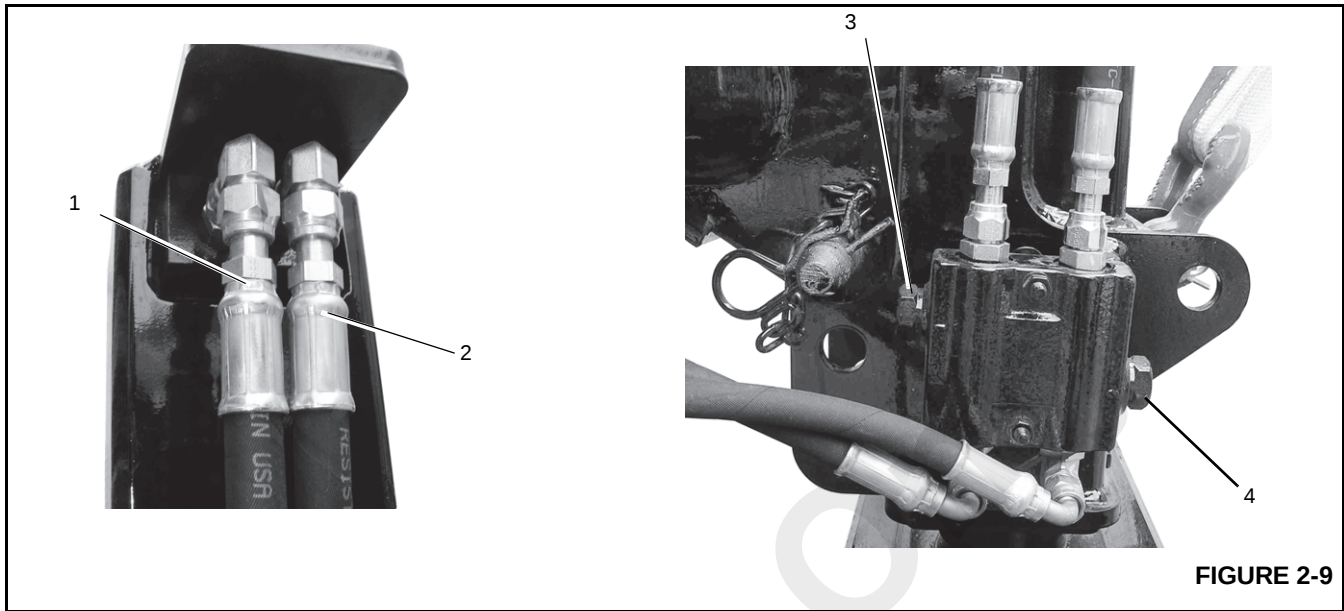

FIGURE 2-9
1. Disconnect the front stabilizer retract (1, Figure 2-9) and extend lines (2). Cap the retract line (1) and install a gauge in the extend line (2).
4. Adjust the extend relief valve (4, Figure 2-9) on the front stabilizer port block to 3447 kPa +689/-0 (500 psi +100/-0).